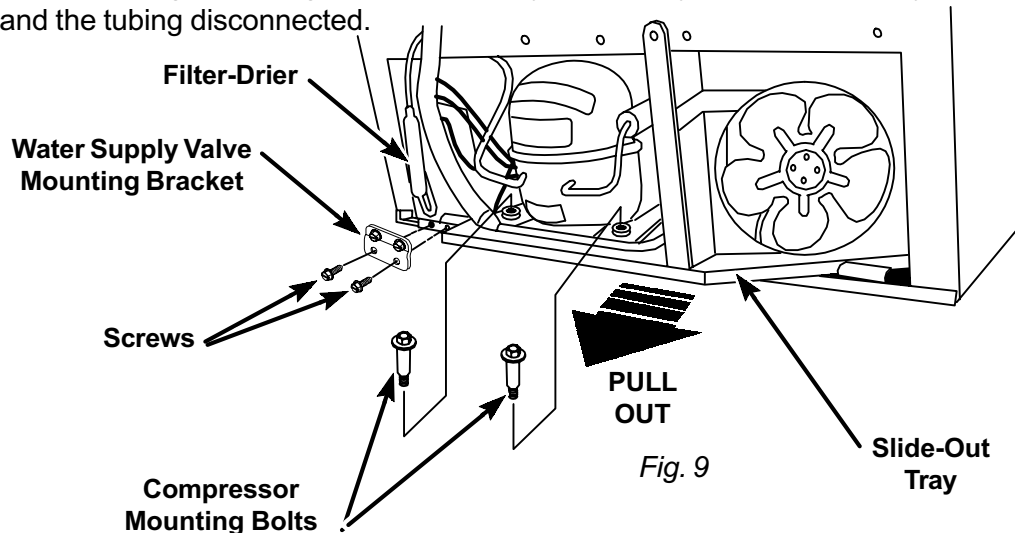

Fig. 9
6. Remove the two (2) compressor mounting bolts securing the slide-out tray to the lower rear cabinet rail. (Fig. 9)
7. Carefully slide the tray out from the unit. (Fig. 9) **NOTE:** The tray can only slide out a few inches without kinking the tubing. To slide the tray completely out, the sealed system must be purged and the tubing disconnected.